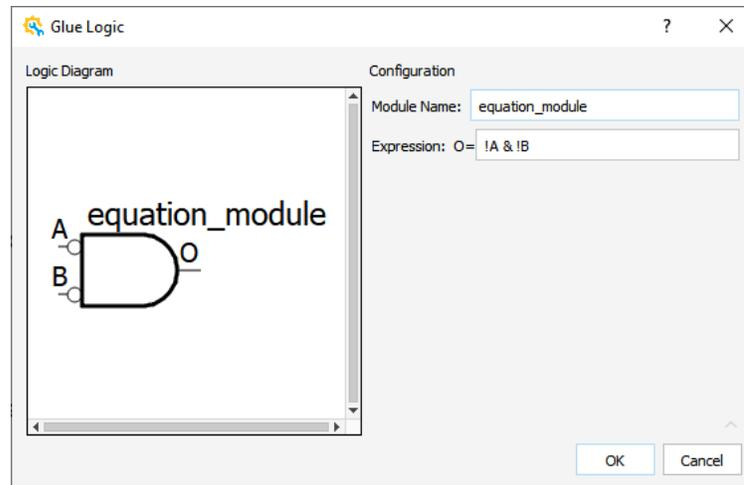

Figure 2.23. Glue Logic Wizard for Equation Module
- a. From the IP Catalog, select the **equation** module. Double-click the equation module, or drag and drop the equation module to the Schematic view. A Glue Logic wizard (Figure 2.23) pops up.